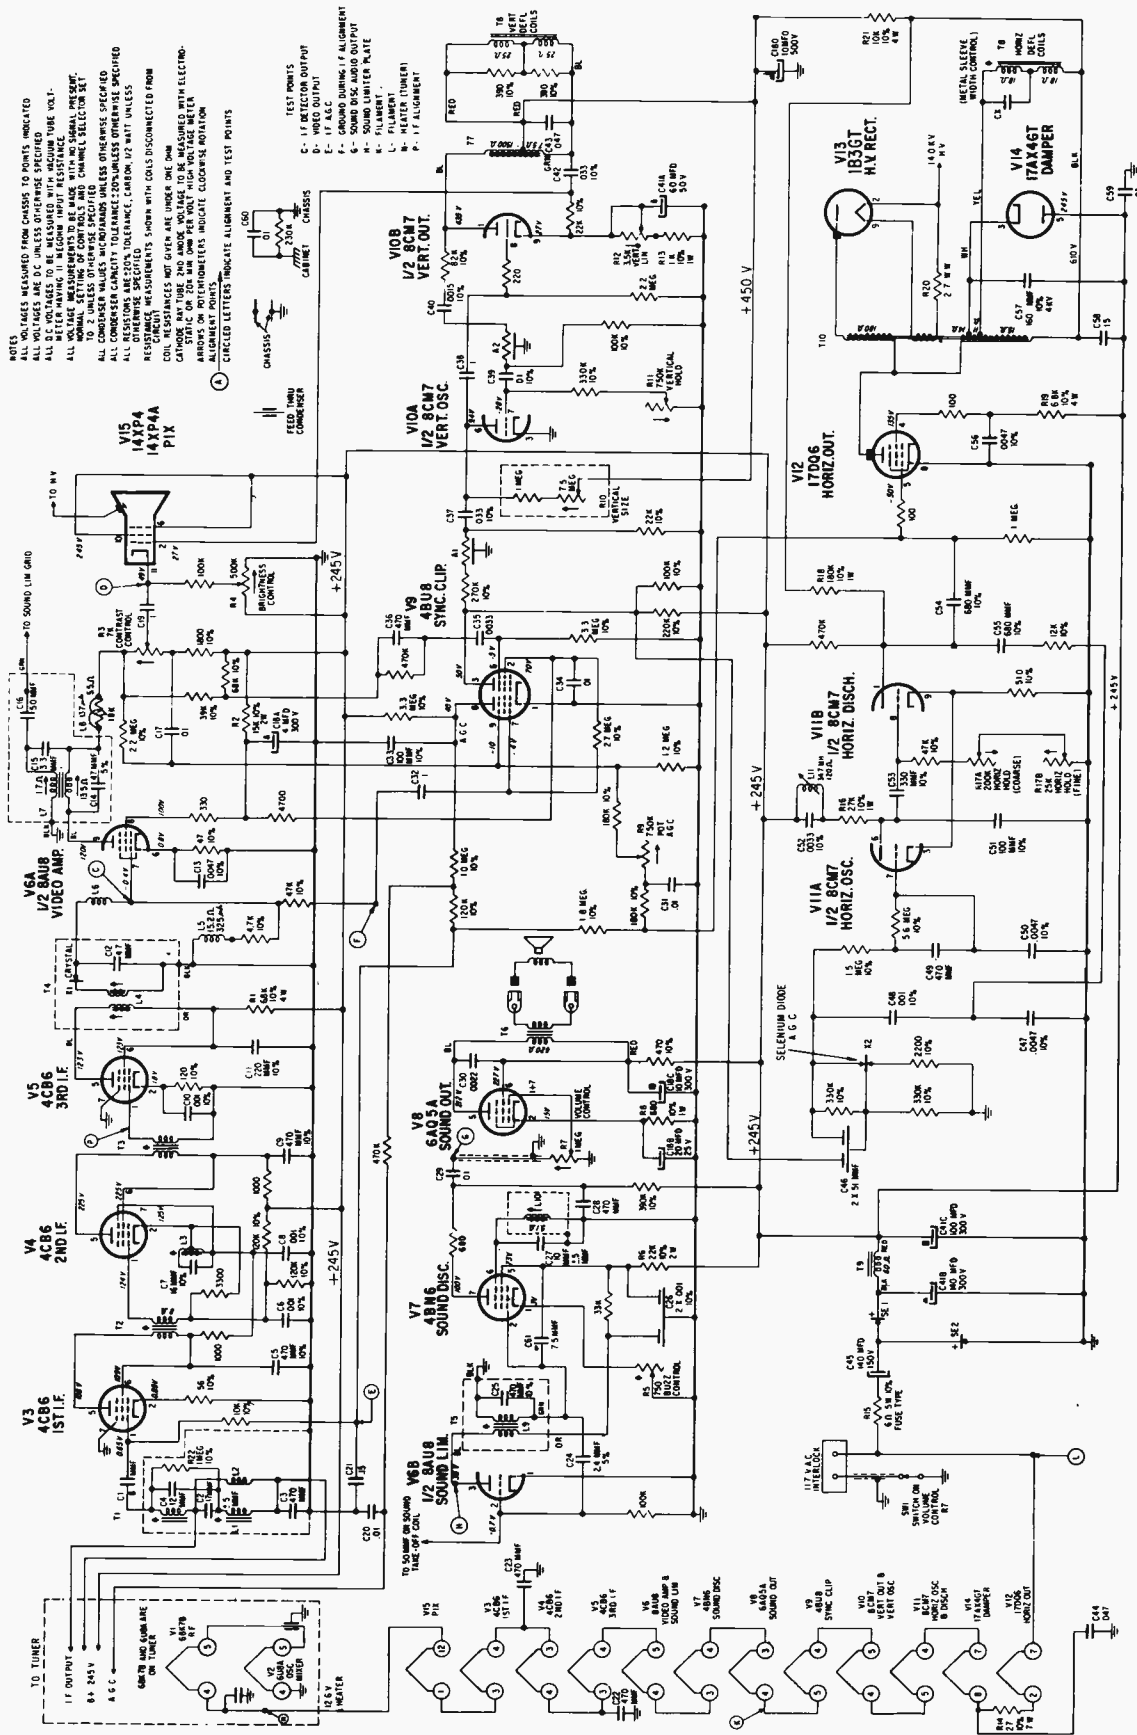

Fig. 31 Schematic Diagram, 15A25 Chassis.
1. To prevent an erroneous IF response, disable the local oscillator by wrapping a short bare wire around the oscillator grid and grounding same. In "U" models it is only necessary to switch to the UHF position. Connect terminal "F" (Fig.31) to chassis.